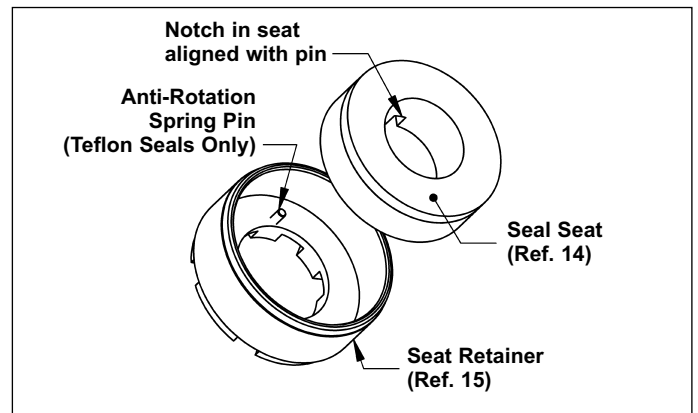

Figure 9 - Seal Seat and Retainer Assembly
- d. Press seal seat into the seal retainer (See Figure 9) using water as a lubricant. The white shiny ceramic face should be visible after pressing the seal into the seal seat retainer. Any scratches, dirt, or fingerprints on the carbon ceramic faces will cause the seal to leak.
**NOTE:** When installing the seat for the Teflon seal, an anti-rotation pin must be installed into the seat retainer. The anti-rotation pin (Ref. No 20) is a small spring pin which must be installed into the seat retainer in the small hole. About 1/8" to 3/16" of the pin should be exposed inside of the seat retainer (Figure 9). The seal seat is then installed into the seat retainer.